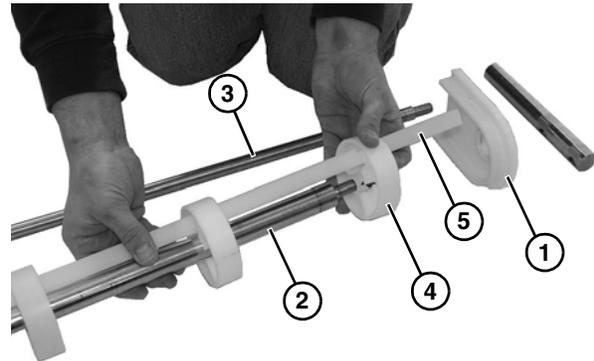

Figure 64
- Remove pinch guard (**Figure 64, item 1**) from idler shaft (**Figure 64, item 2**) and pinch guard shaft (**Figure 64, item 3**).
- Slide the pucks (**Figure 64, item 4**) and alignment bar (**Figure 64, item 5**) off the idler shaft (**Figure 64, item 2**).